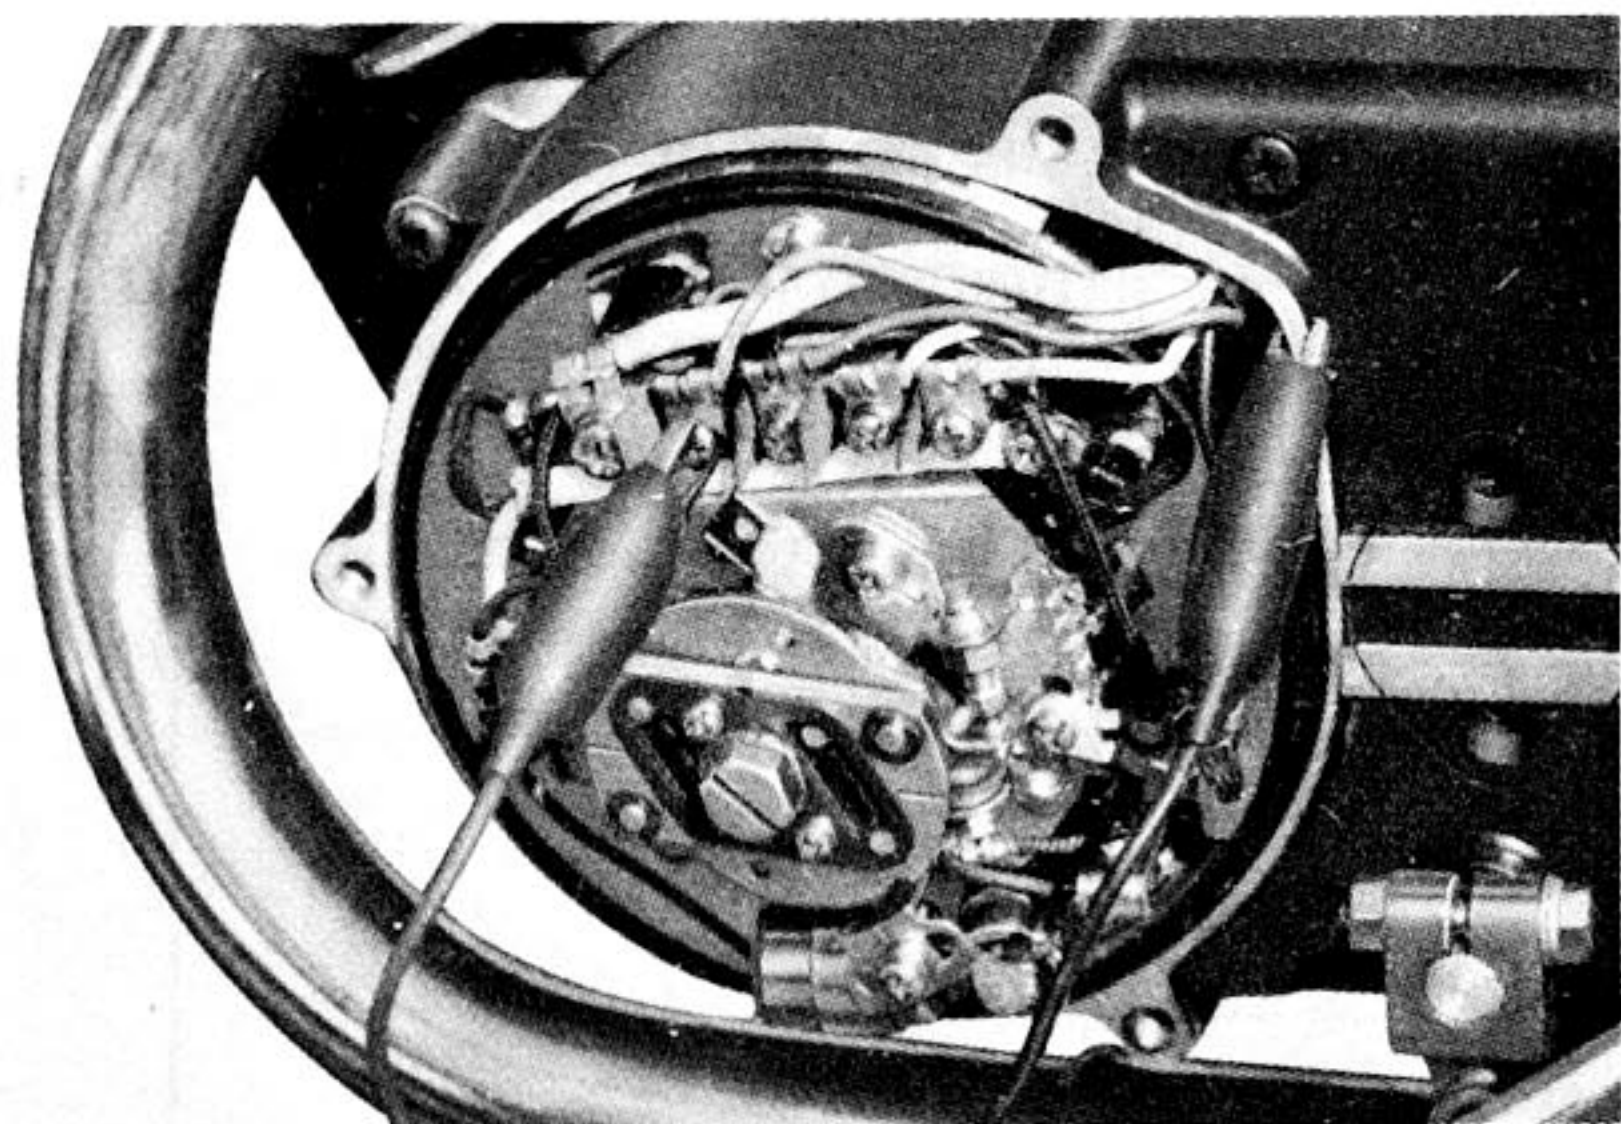

Fig. 6-5-16
- (6) Connect the electrotester (or point checker) terminals to the point assembly. Positive (+) lead to  $I_1$  or  $I_2$ . Negative (-) to a good ground. (Fig. 6-5-16)